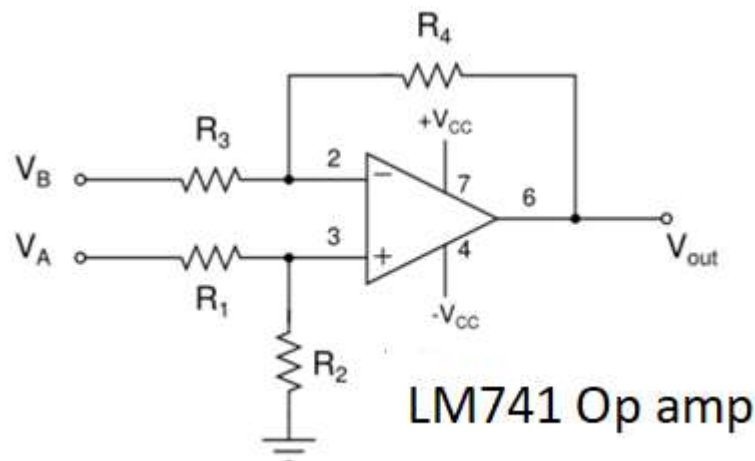

Fig. 3.3 Single-op amp difference amplifier (for measuring V_{out} variations with load)
Fig. 3.3 gives the circuit diagram of a difference amplifier. The voltage gain of the amplifier is 10. We want the difference amplifier to measure the small variations in the LM7805 variations with reference to the nominal V_{out} value (of +5V). With $V_A = V_B$, the difference amplifier output will be zero. V_{out} of the difference amplifier will amplify any voltage difference between V_A and V_B by a factor of 10. In this case this will amplify the difference LM7805 output with reference to its nominal value.
1. Wire the op amp difference amplifier circuit of Fig.3.3.